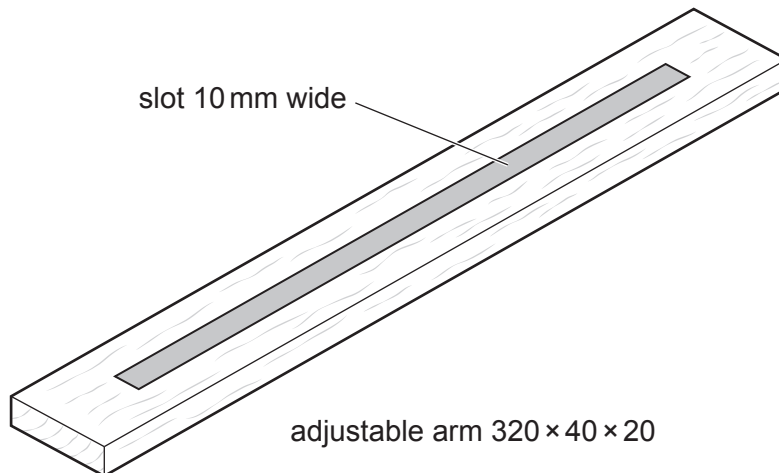

Fig. 11.5
- (d) Fig. 11.5 shows the adjustable arm with the slot marked out.